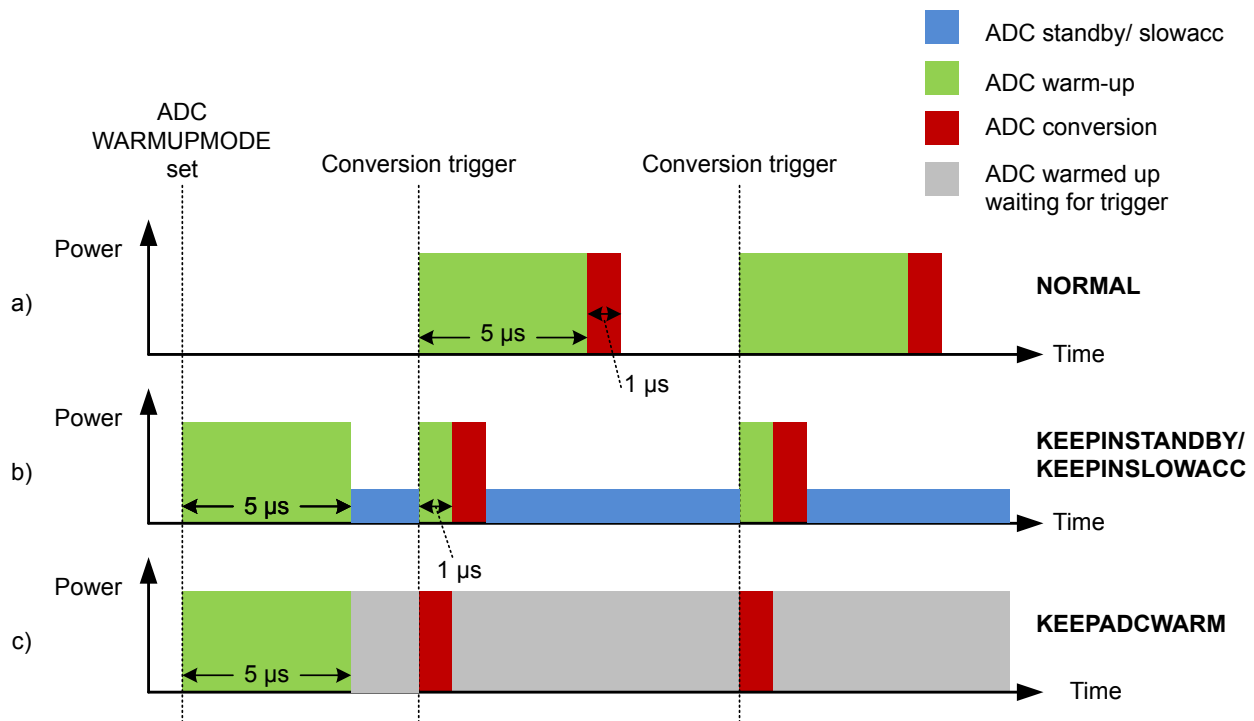

Figure 22.4. ADC Analog Power Consumption With Different WARMUPMODE Settings
Normally, the ADC will be warmed up only when samples are requested and is shut off when there are no more samples waiting. However, if lower latency is needed, configuring the WARMUPMODE field in ADCn_CTRL allows the ADC and/or reference to stay warm between samples, reducing the warm-up time or eliminating it altogether. Figure 22.4 ADC Analog Power Consumption With Different WARMUPMODE Settings on page 723 shows the effects on analog power consumption in scenarios using different WARMUPMODE settings.
- **NORMAL:** This is the lowest power option for general-purpose use and low sampling rates (below 35 ksp/s). The ADC and references are shut off when there are no samples waiting. The ADC does not consume any power when it is shut down. A 5 μ s warmup time will be initiated prior to every conversion. Figure a in Figure 22.4 ADC Analog Power Consumption With Different WARMUPMODE Settings on page 723 shows this mode.
- **KEEPINSTANDBY:** This mode is suitable for infrequent sampling of lower impedance inputs, and is the lowest power option for sampling rates between about 35 and 125 ksp/s. It may also be useful for lower sampling rates where latency is important. The reference selected for scan mode is kept warm, but the ADC is powered down. The ADC will initiate a 1 μ s warmup period before a conversion begins. Because the reference is kept warm, the ADC will consume a small amount of standby current when it is not converting. Figure b in Figure 22.4 ADC Analog Power Consumption With Different WARMUPMODE Settings on page 723 shows this mode.
- **KEEPADCWARM:** This mode provides the lowest latency and allows for maximum sampling rates. The ADC and reference circuitry remain powered on even when conversions are not in progress. Figure c in Figure 22.4 ADC Analog Power Consumption With Different WARMUPMODE Settings on page 723 shows this mode. This mode consumes the most power, but as soon as a trigger event occurs, the acquisition and conversion begin with no warm-up time.